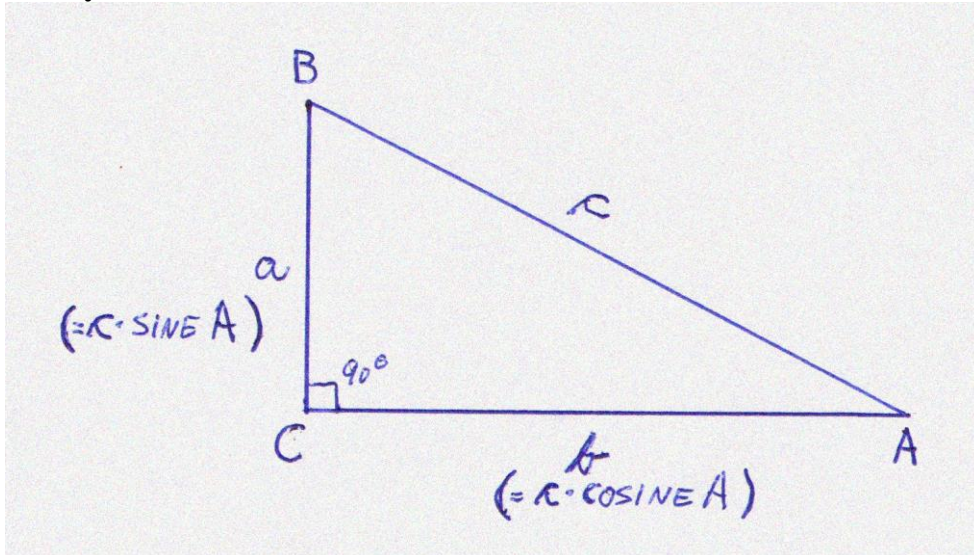

Fig 1. A right-angle triangle
- In a right-angle triangle, like that on Fig1...
Let us say we know that  $a = 3\text{metres}$  and the angle at A =  $28^\circ$  (see Fig 1)